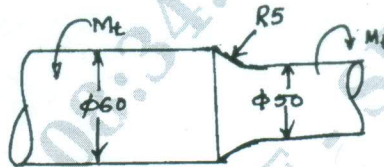

Fig Q2(b)
- b. Determine the torque transmitted by the stepped shaft shown in Fig Q2(b). If the maximum shear stress is limited to 60MPa (08 Marks)